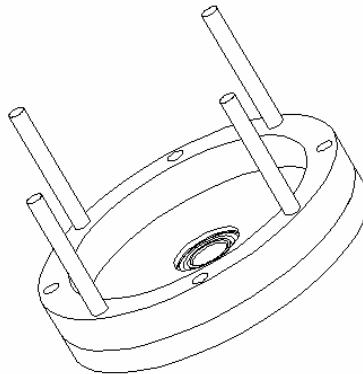

Figure 2
3. Place Ring Plate Ring #003 on top of Ring Plate Float as shown in figure 2.